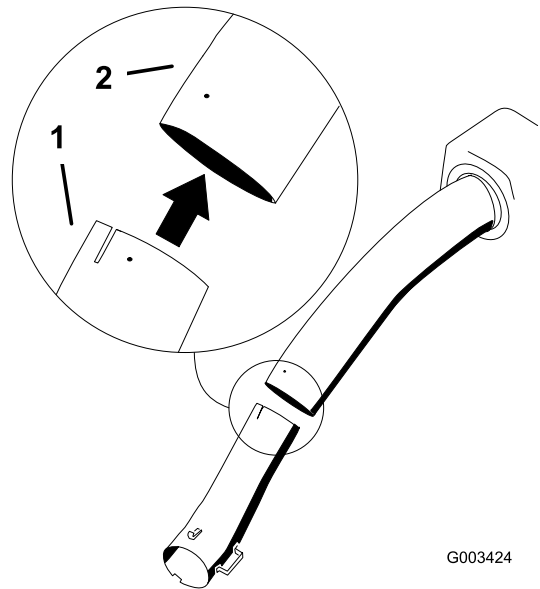

Figure 26
8. Install the lower tube into the upper tube (Figure 26).